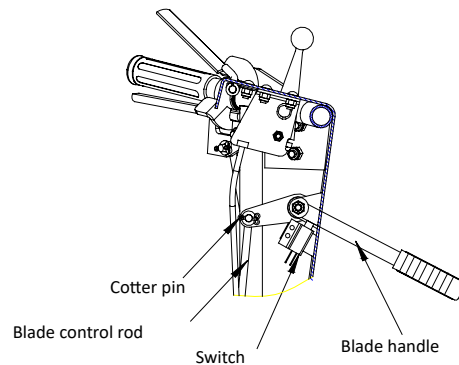

FIG 15.
- The blade handle must be in the engaged position. The handle must press the pressure switch by at least 5 mm, otherwise the length of the rod must be adjusted. To change the length of the rod, remove the cotter pin from the upper assembly of the blade control rod. Remove the rod from the hole in the lever bracket. Rotate the rod until the desired length is reached to properly press the switch. Reinstall the rod into the hole in the lever bracket and add the cotter pin. (See FIG 15)